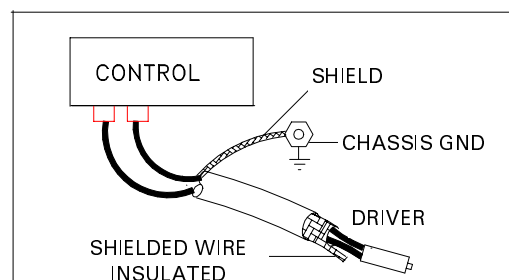

Figure 2-2 Shielded Wiring Connection
- Connect the shield to the nearest chassis ground and leave the other end of the shield open, see Figure 2-2.